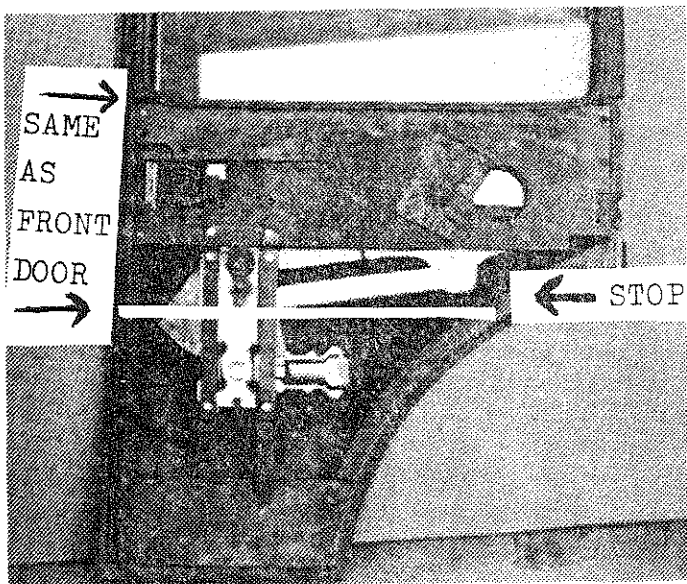

Fig. 7
15. Rear doors and quarter glasses that go only 1/2 way down will still be installed as if they went down same amount as the front door. (Fig. 7) Regulator will be in 1/2 up position when installing.